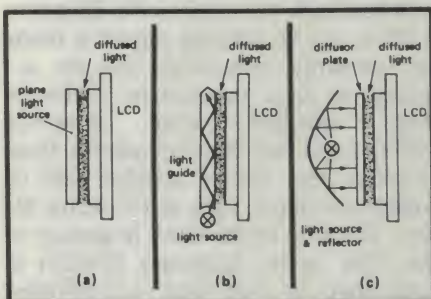

Fig.17: Back lighting methods.
1. Electroluminescent light source (Fig.17(a)). This has the advantage that it is very thin and emits a diffuse and evenly distributed light. However its luminance is low, it requires a supply of from 100 to 200V at a few hundred hertz and it has a limited life.
2. Light guide (Fig.17(b)). This uses a point source such as an LED or a linear source such as a fluorescent tube, the light from which is distributed by a light guide using total reflection. Its construction can be flat, so little space is required behind the LCD. However uniform light distribution can be difficult to obtain and light loss can be considerable.
3. Light box (Fig.17(c)). Here light from an LED, halogen or fluorescent lamp is distributed by a light box consisting of a reflector and diffuser. This light source is very effective and efficient, but needs considerable space immediately behind the display. Any form of back lighting